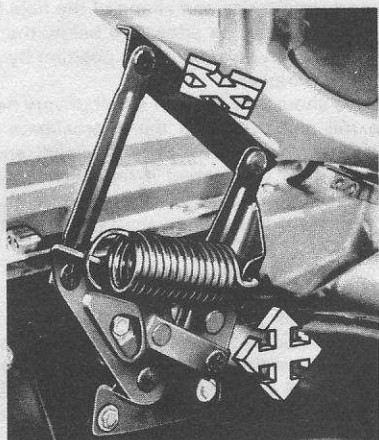

Fig. 12.1 Hood alignment – adjustment points (Sec 6)
- 2 Loosen the hinge-to-fender apron securing bolts and adjust the vertical, and fore-and-aft position of the hood (Fig. 12.1).